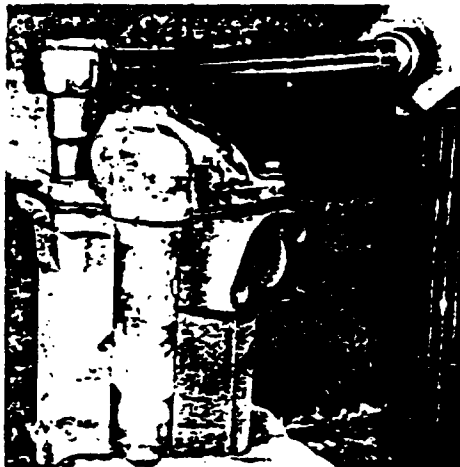

Figure 2-305. Torquing Inlet End Cap Capscrews
11. Torque inlet end cap capscrews to 13 lb.ft. See Figure 2-305.